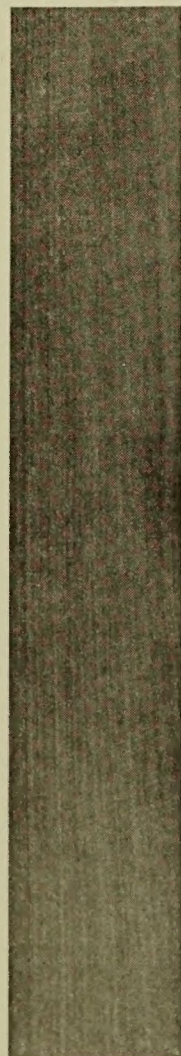

Fig. 4a
- (h) Quarters—plain (Fig. 4a).